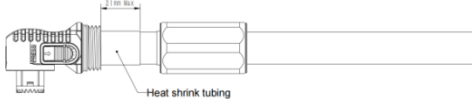

Figure 6-7-5 Wrap the crimping terminal with the heat shrink tubing
- 5) Wrap the crimping terminal with the heat shrink tubing, and the maximum distance from the end of the sleeve to the plastic is 21mm, as shown in Figure 6-7-5.